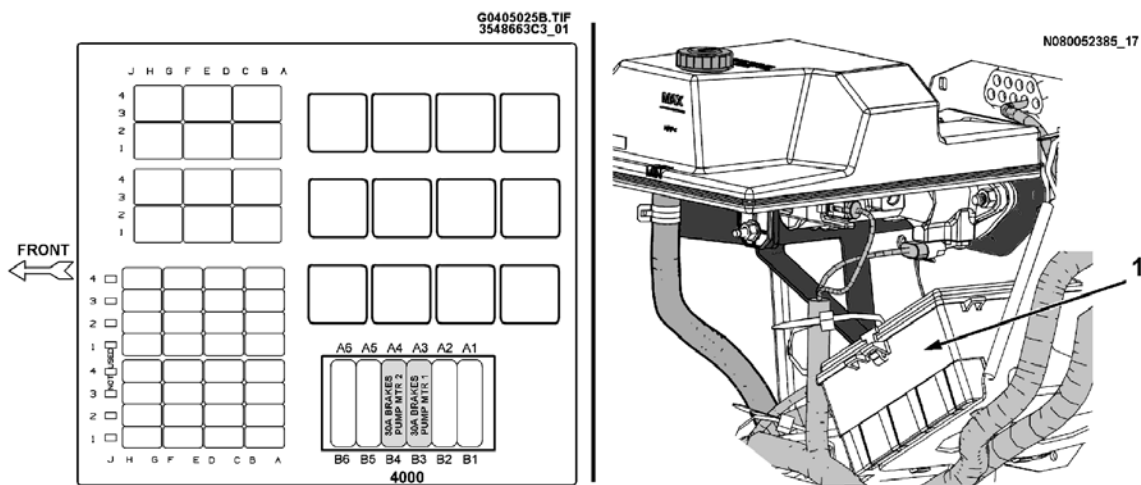

Figure 25 Location of Motor Fuses In Power Distribution Center
2. Set the ignition key to OFF and remove the two 30 Amp fuses (A3 and A4) that provide power to the brake system motors. The fuses are in the Power Distribution Center (PDC) located near the master cylinder (refer to FIGURE 25).